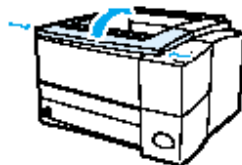

Figure 42. Open Top Cover
1. Open the top cover as shown in Figure 42.